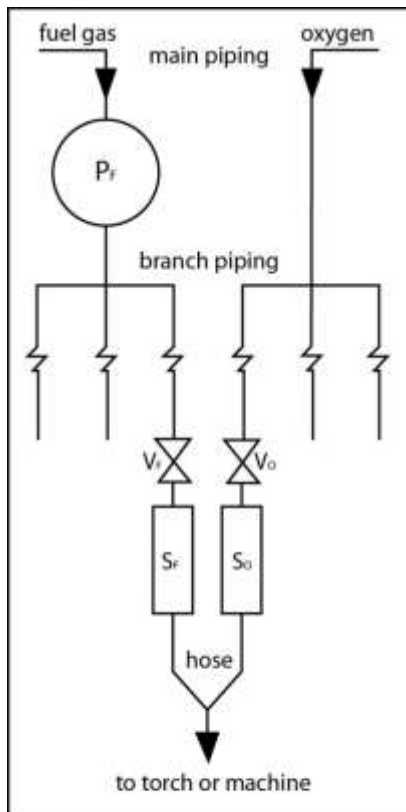
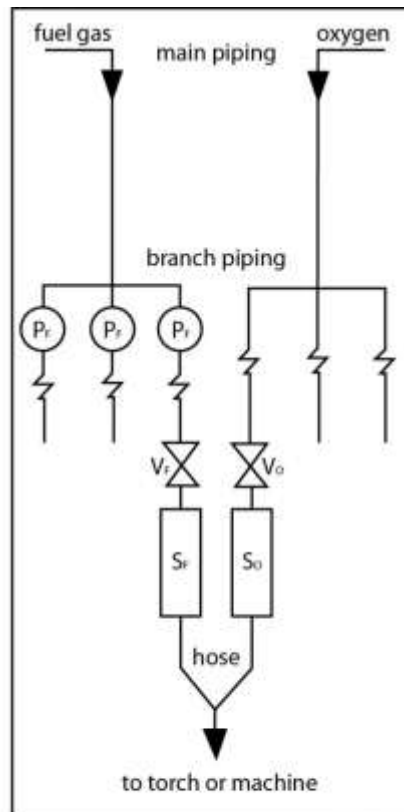
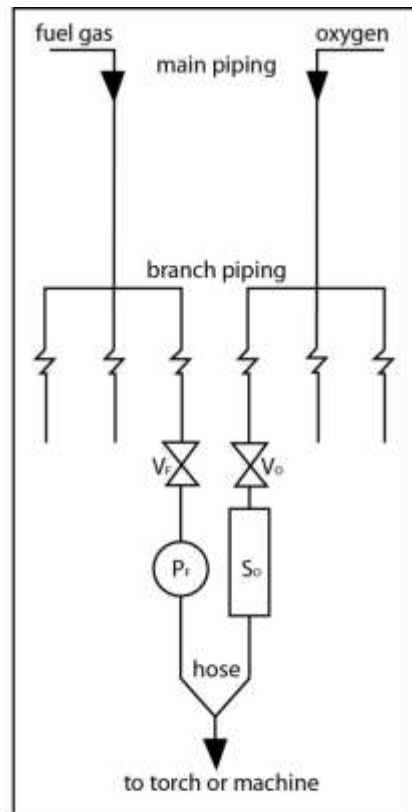

fig. Q-1
fig. Q-2
fig. Q-3
Approved protective equipment (designated P(F) in Figs. Q-1, Q-2, and Q-3) shall be installed in fuel-gas piping to prevent:
The protective equipment shall be located in the main supply line, as in Figure Q-1 or at the head of each branch line, as in Figure Q-2 or at each location where fuel-gas is withdrawn, as in Figure Q-3. Where branch lines are of 2-inch pipe size or larger or of substantial length, protective equipment shall be located as shown in either Q-2 or Q-3.
A check valve, pressure regulator, hydraulic seal, or combination of these devices shall be provided at each station outlet, including those on portable headers, to prevent backflow, as shown in Figures Q-1, Q-2, and Q-3 and designated as S(F) and S(O).
When approved pipeline protective equipment (designated P(F)) is located at the station outlet as in Figure Q-3, no additional check valve, pressure regulator, or hydraulic seal is required.